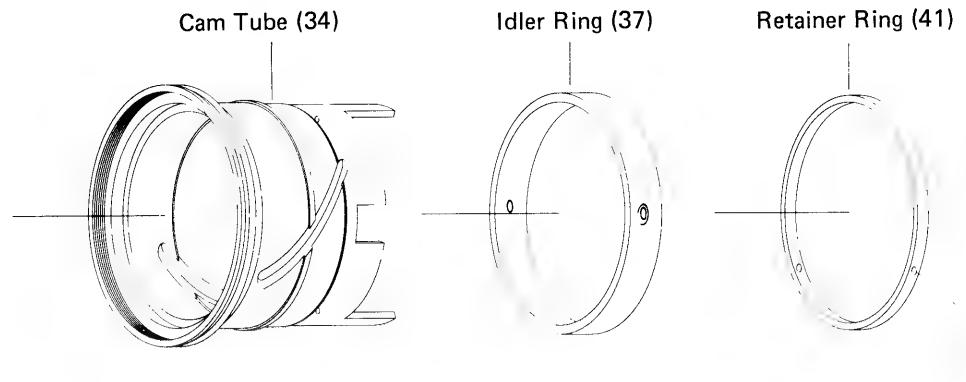

Figure 3-6. Removal of Idler Ring and Retainer Ring Flathead Screws (42)
9. Remove the three flathead screws (42) in the retainer ring (41, Figure 3-6) and slide the idler ring (37) and retainer ring off.